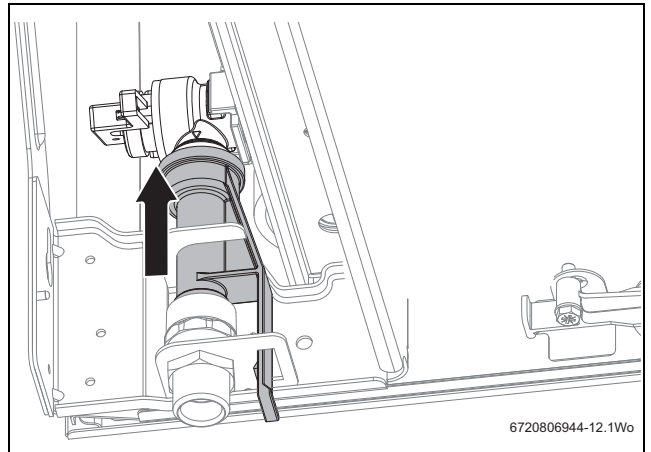

Fig. 30 PRV in the up position
**NOTICE:** The pressure relief connector must be repositioned after the appliance has been correctly mounted to the wall mounting frame refer to figure 30.